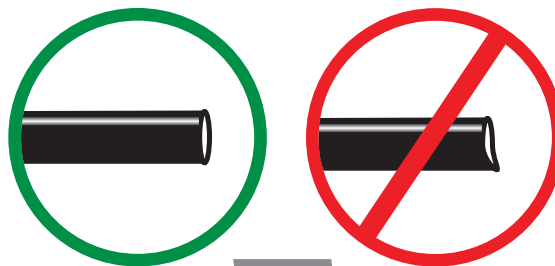

fig. 9
- a. Check the air line connection by deflating the spring and removing the line by pulling the collar against the fitting and pulling firmly on the air line. Trim 1" off the end of the air line. Be sure the cut is clean and square (see Fig. 9). Reinsert the air line into the push-to-connect fitting.
2. If the preceding steps have not resolved the problem, call Air Lift customer service at (800) 248-0892.